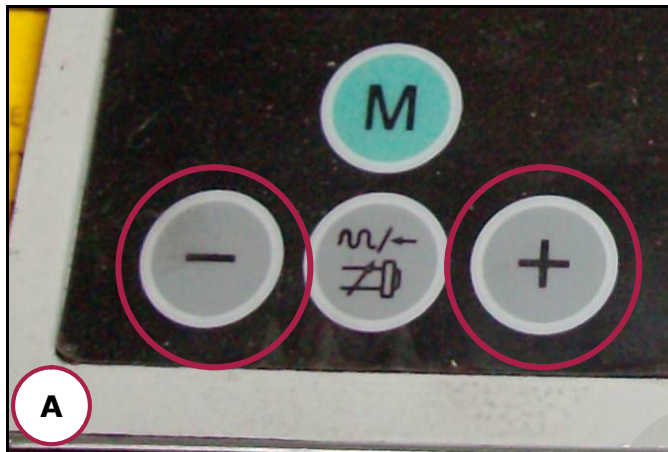

Figure 12 – Speed adjustment knobs.
To stop the machine in case of emergency, press the red, mushroom-shaped button (see Figure 12). When pressure is applied to the button, the machine stops. To restart the machine after activating the emergency button, it is necessary to re-arm the button by turning it clockwise.
- the + and - buttons on the control panel (see Figure 12/A);
- the lever at the rear of the machine (see Figure 12/B).
To select the desired rotation speed, move the lever back in place and press the + or - button to change the rotation speed (see Figure 12).
6. Set the correct spindle rotation speed using the rear lever (see Figure 12/B) and the + and - buttons (see Figure 12/A) to start the rotation of the spindle.